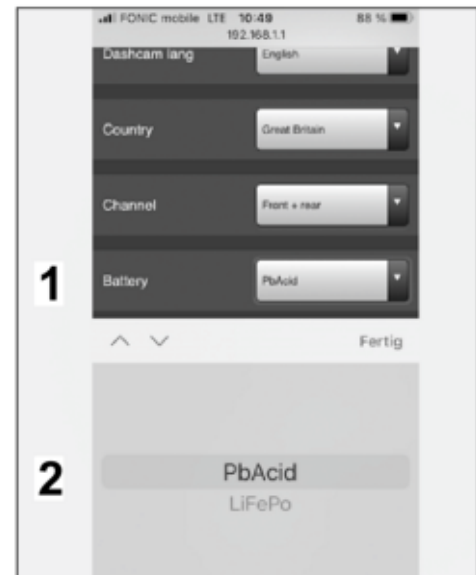

Figure 27
5.3.4 Select battery type (⇒ Figure 27)